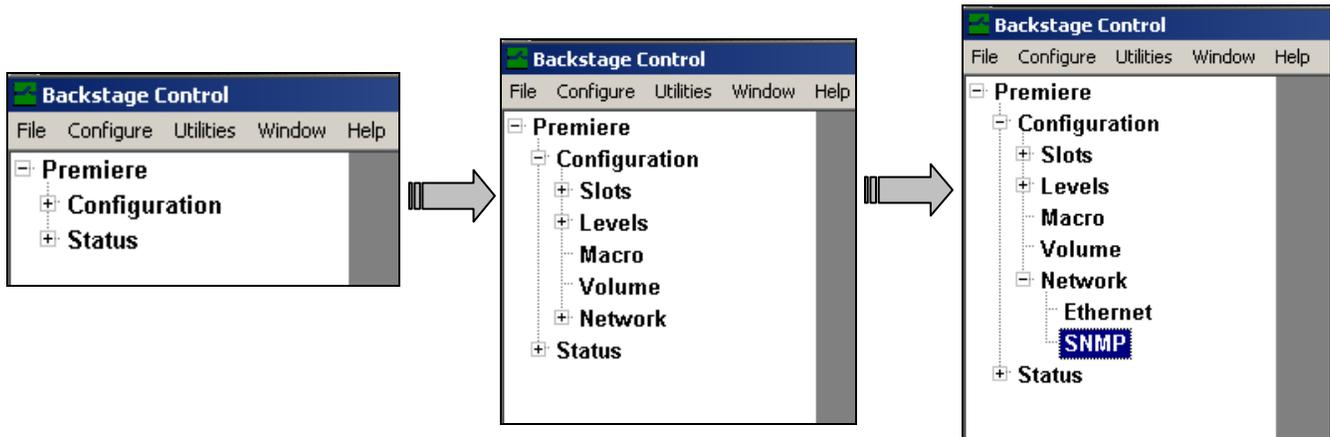

FIGURE 119: Accessing The SNMP Directory
1) In the tree window, access the **SNMP** directory by expanding the **Premiere**, **Configuration**, and **Network** root directories by clicking on the x-box (☒) adjacent to each directory (see Figure 119).